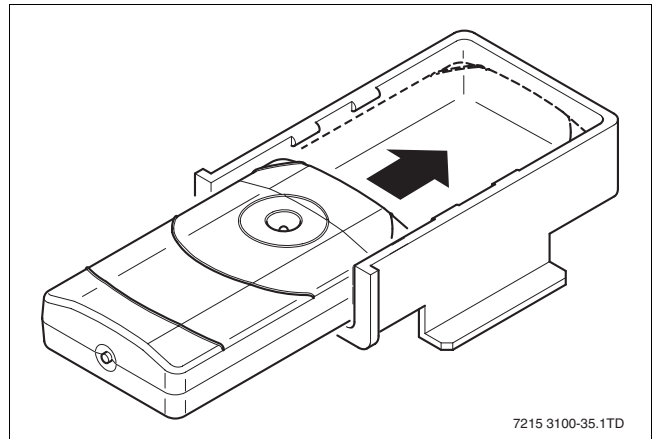

Fig. 35 Place receiver into bracket
- Slide the receiver securely into the bracket, supplied with the boiler (→ fig. 35).